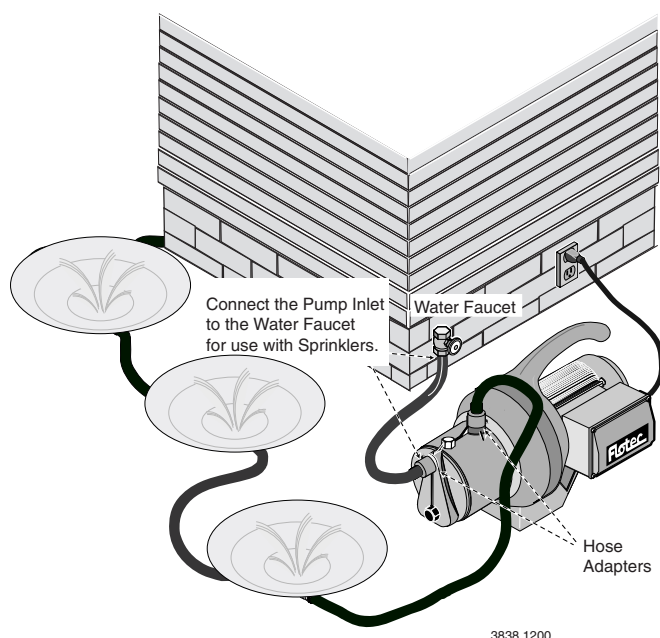

**Figure 2 – Do Not Run Pump With Outlet Shut Off**
**⚠ CAUTION** **Hazardous pressure.** When using a garden hose as a discharge line, do not run the pump with the hose outlet or the nozzle closed. The hose or the nozzle may burst from excessive pressure. See Figure 2. When using the pump as a high-pressure washer, use only reinforced high pressure hose or pipe for the discharge line.